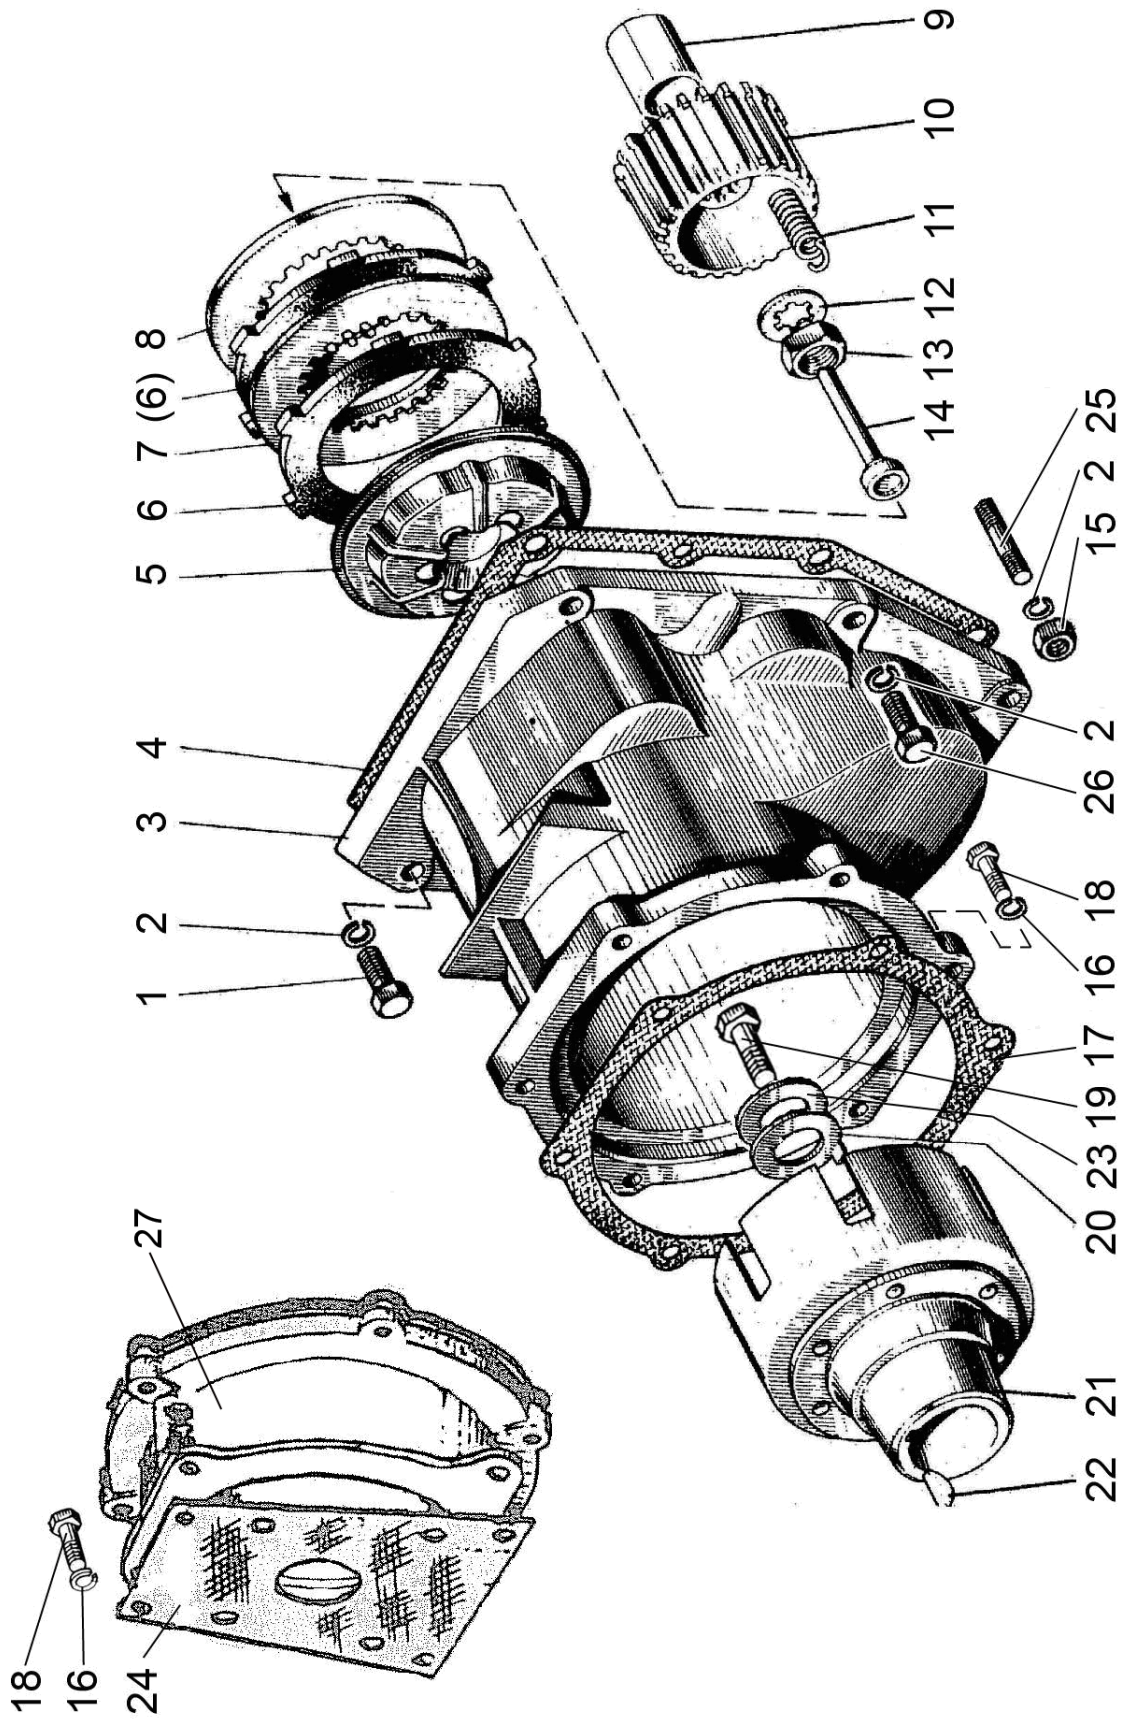

Figure 2 – Clutch
**05-1601. Clutch (figure 2)**